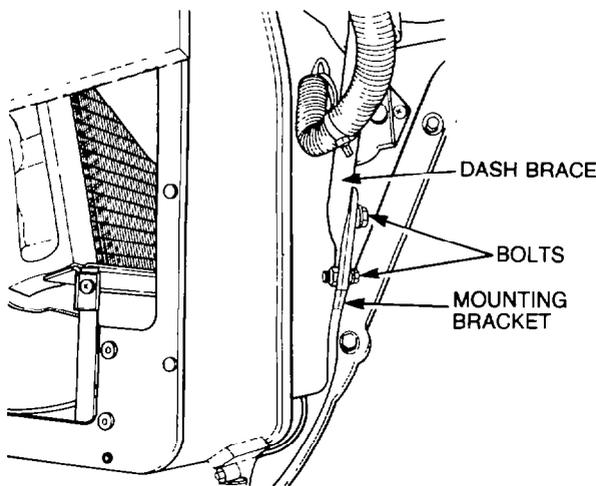

Figure 328 — Air Conditioner Mounting Bracket
- c. Secure the air conditioning unit mounting bracket to the dash panel brace (see Fig. 328) with the two bolts, washers and nuts.